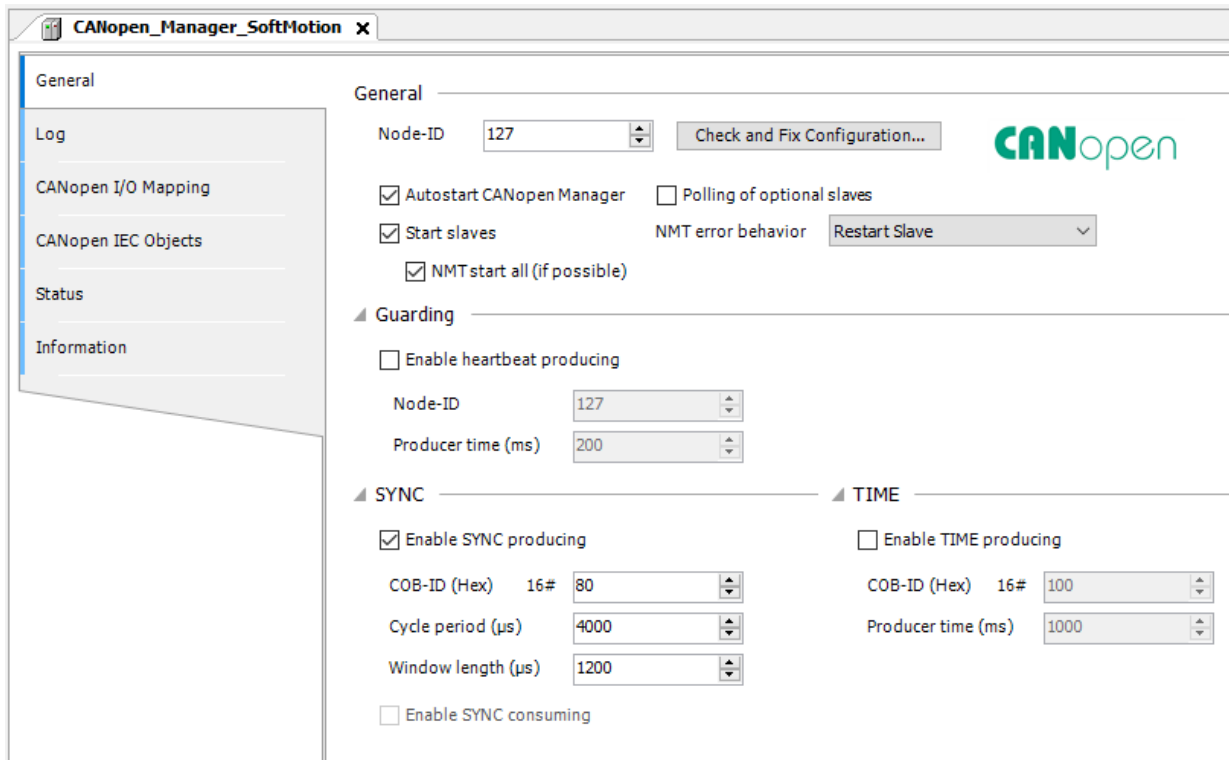

Figure 6.8: Default CANopen Manager SoftMotion settings.
- Open the **CANopen Manager SoftMotion** object settings, and on the **General** tab, set the page options as shown in Figure 6.8.